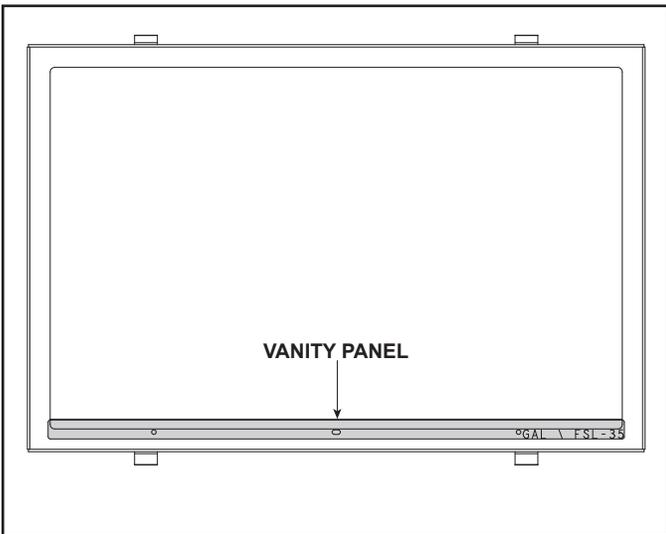

Figure 3. Vanity Panel - Firescreen Front
2. If the bolt and nut used as a child safety lock are removed, store them in the extension bracket for future use. See Figure 3.